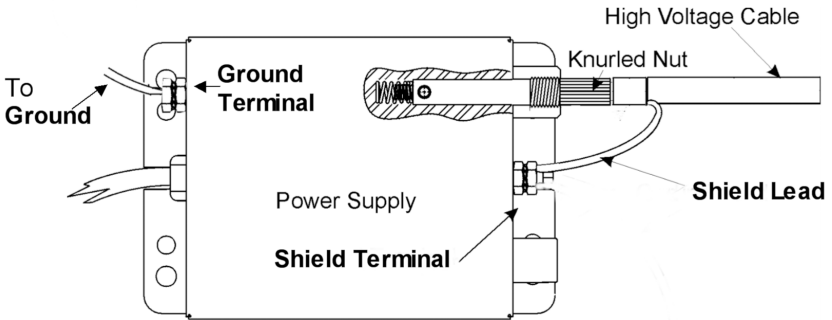

Figure 13. Installation of High Voltage Cable Assembly to TrueAC Power Supplies
2. Insert SLCC high voltage connector in female port on the power supply and finger-tighten (see **Figure 13** for TrueAC).
2. For “D” remove ground wire of cable assembly from ground terminal. For TrueAC, remove shield wire of cable assembly from shield terminal (see **Figure 13**).